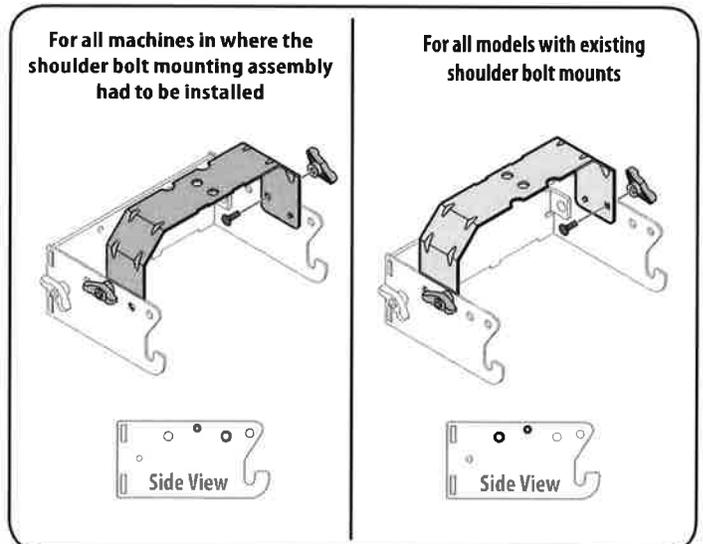
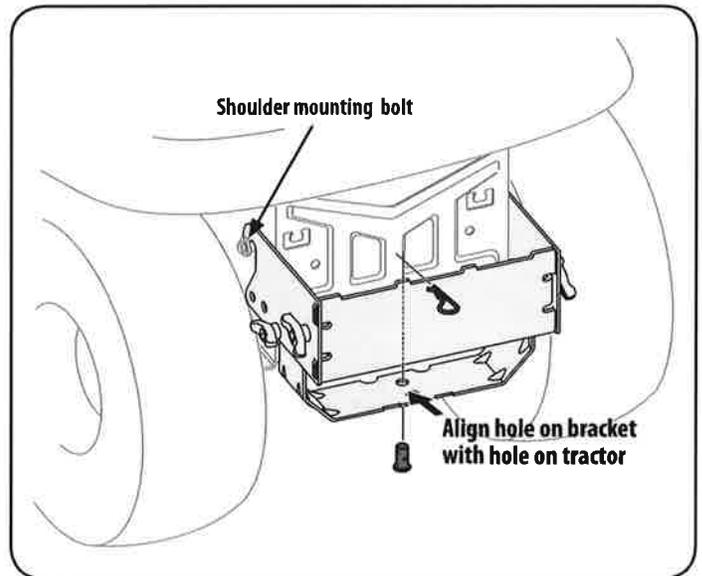

Figure 4
Figure 8
On some models, a shoulder bolt mounting assembly must be installed first. Check the back of your tractor to determine if a shoulder mounting bolt is present, see Figure 8. If the model of tractor that you are mounting this bagging kit on already has a shoulder mounting bolt, as shown in Figure 8, then skip the following steps and move on to Assemble Mounting Brackets, next in this section. If this is the case, then discard the mounting hardware shown below. If no shoulder bolt is factory installed on your tractor, then follow the steps below to install the mounting assembly with shoulder bolt.
**NOTE:** The holes closest to the mounting hooks are to be used for all non-existing shoulder bolt series machines in where the shoulder bolt mounting assembly had to be installed. The two holes closest to the cross mount are for all machines that have an existing shoulder bolt present, as shown in Figure 8. The hitch support bracket will need to be flipped to enable alignment of the proper holes depending on the model of machine this bagger is being installed on. See Figure 4.
2. Install the clevis pin (711-0309A) from hardware pack 689-00328A into the tractor's hitch and secure with a hairpin clip (714-0117). See Figure 8.